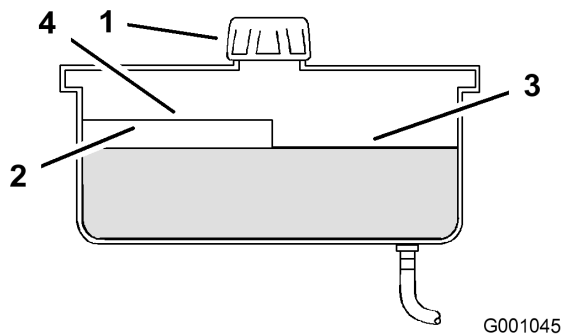

Figure 64
2. Clean the area around filler neck of hydraulic tank (Figure 64).
3. Remove the cap from the filler neck. Look inside to check if there is fluid in the reservoir (Figure 64).
Note: The fluid level should be to the top of the hot level of the baffle, when the fluid is hot (Figure 64).